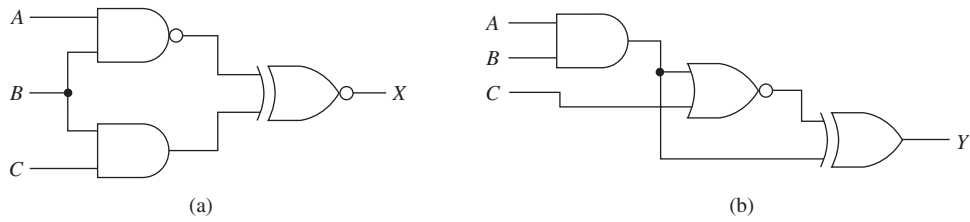

Figure P6-8
- C** **6-8.** Repeat Problem 6-7 for the circuits of Figure P6-8.